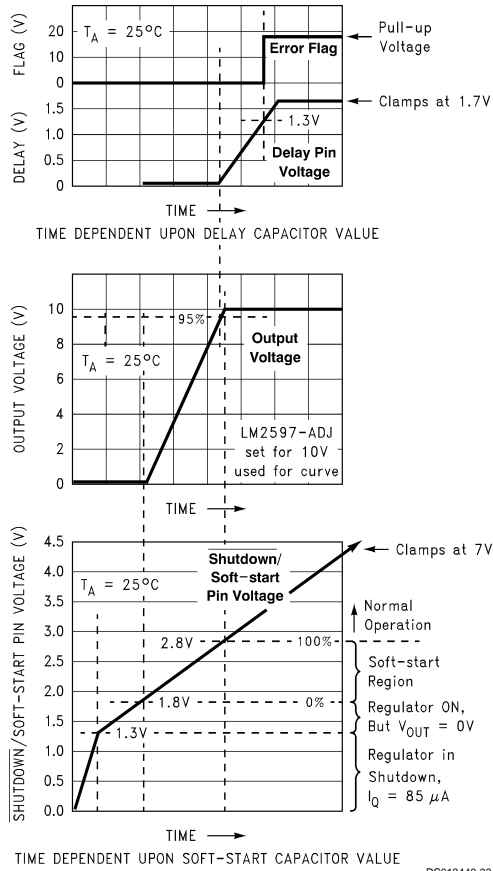
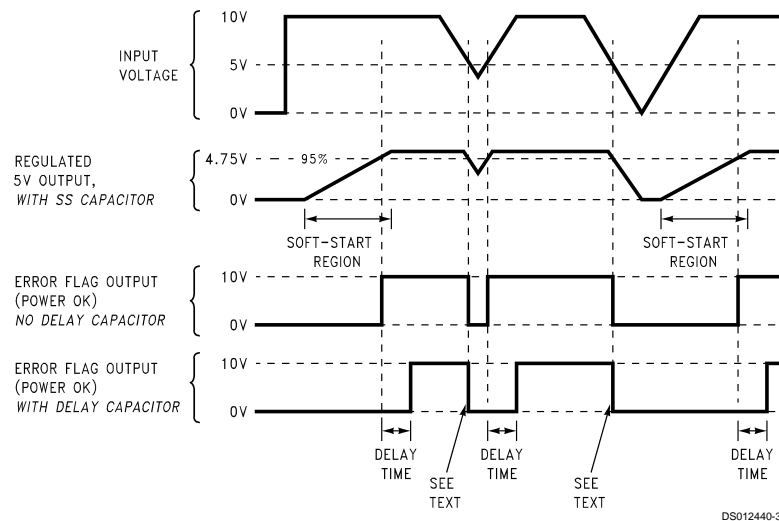

FIGURE 13. Soft-start, Delay, Error, Output
FIGURE 14. Timing Diagram for 5V Output
C_{SS} — A capacitor on this pin provides the regulator with a Soft-start feature (slow start-up). When the DC input voltage is first applied to the regulator, or when the Shutdown /Soft-start pin is allowed to go high, a constant current (approximately $5 \mu A$) begins charging this capacitor). As the capacitor voltage rises, the regulator goes through four operating regions (See the bottom curve in *Figure 13*).
3. Soft-start Region. When the \overline{SD} /SS pin voltage is between 1.8V and 2.8V (@ 25°C), the regulator is in a Soft-start condition. The switch (Pin 8) duty cycle initially starts out very low, with narrow pulses and gradually get wider as the capacitor \overline{SD} /SS pin ramps up towards 2.8V. As the duty cycle increases, the output voltage also increases at a controlled ramp up. See the center curve in *Figure 13*. The input supply current requirement also starts out at a low level for the narrow pulses and ramp up in a controlled manner. This is a very useful feature in some switcher topologies that require large startup currents (such as the inverting configuration) which can load down the input power supply.
Note: The lower curve shown in *Figure 13* shows the Soft-start region from 0% to 100%. This is not the duty cycle percentage, but the output voltage percentage. Also, the Soft-start voltage range has a negative temperature coefficient associated with it. See the Soft-start curve in the electrical characteristics section.
C_{DELAY} — Provides delay for the error flag output. See the upper curve in Figure 13, and also refer to timing diagrams in Figure 14. A capacitor on this pin provides a time delay between the time the regulated output voltage (when it is increasing in value) reaches 95% of the nominal output voltage, and the time the error flag output goes high. A 3 μA constant current from the delay pin charges the delay capacitor resulting in a voltage ramp. When this voltage reaches a threshold of approximately 1.3V, the open collector error flag output (or power OK) goes high. This signal can be used to indicate that the regulated output has reached the correct voltage and has stabilized.